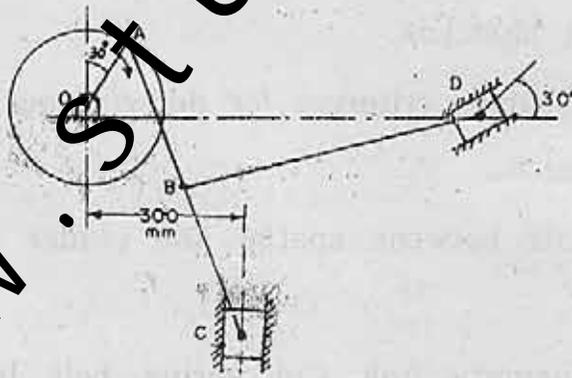

Fig. 1
3. (a) In the mechanism shown in Fig. 1, $OA = 300$ mm, $AB = 600$ mm, $AC = 1200$ mm, $BD = 1200$ mm. OD is horizontal at the instant shown and OA rotates at 200 r.p.m. clockwise direction.